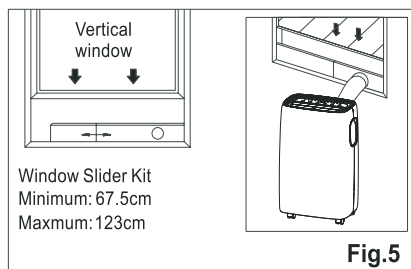

Fig.5
3. Affix the connector A into the window slider kit and seal. (Fig.5&6)